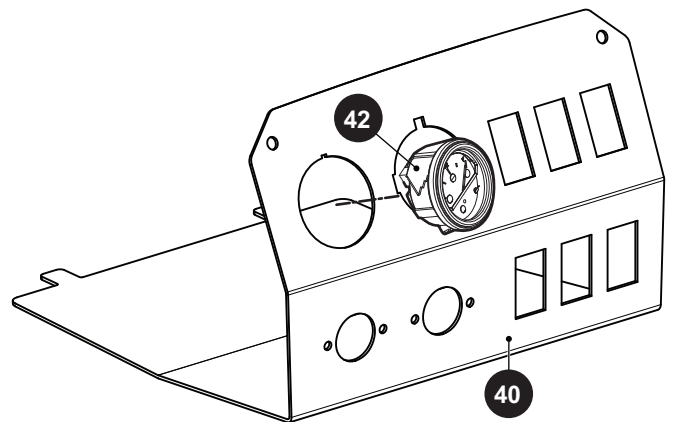

Fig. 16 SOC Meter
4. Squeeze the tabs on the back of the SOC meter (42) and push it through the front of the gauge panel (40) (Ref. Fig. 16).